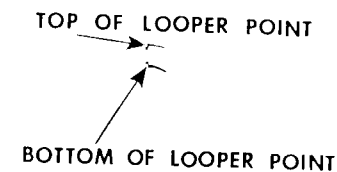

**Fig. 42. Timing the Looper
Loosen the looper set screw **F3**, **Fig. 42** and set the looper as close as possible to the needle, but without actually touching it.
**BOTTOM** of the looper point (see **Fig. 43**) should be exactly at the top of the needle eye, as indicated at **H3**, **Fig. 42**, on the left hand stroke of the needle bar.
The guide **J3**, shown in **Figs. 42** and **45**, having two functions, as a needle guide and as a thread control, requires two adjustments.